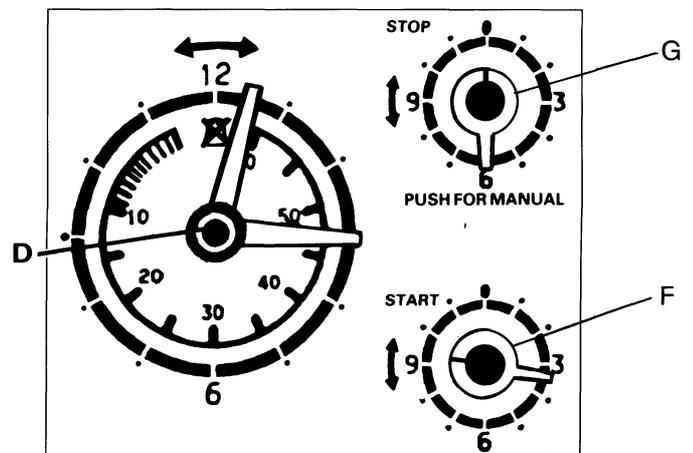

Fig.5
- iii) Use the stop time control knob (G) and turn in either direction until the stop time pointer lines up with the time you want the food to be ready, e.g. 6 p.m. as shown in Fig. 5.